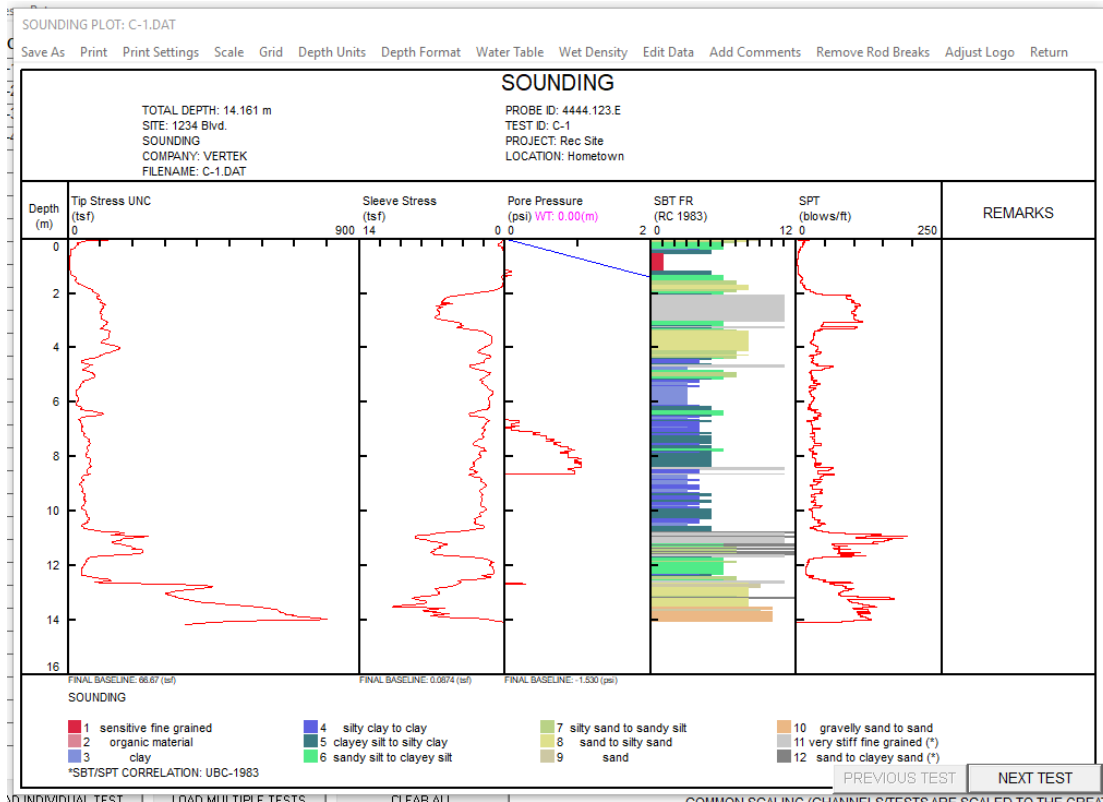

Figure 4 Batch Plots
- a. PLOT SELECTED will generate a plot for each file selected and the user can tab through them using the PREVIOUS TEST / NEXT TEST buttons at the bottom of the plots (see Figure 4 for sample in BATCH OUTPUT MODE)
- i. BATCH – See Figure 4